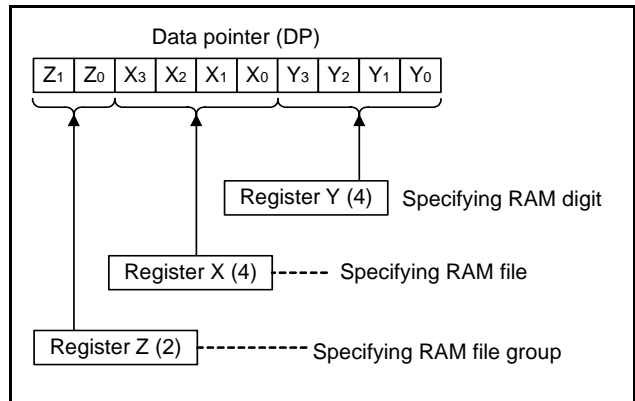
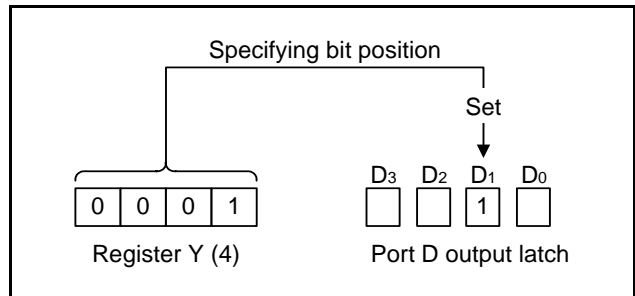

Fig 19. Data pointer (DP) structure
Fig 20. SD instruction execution example
**(9) Data pointer (DP)**
Data pointer (DP) is used to specify a RAM address and consists of registers Z, X, and Y. Register Z specifies a RAM file group, register X specifies a file, and register Y specifies a RAM digit (Figure 19). Register Y is also used to specify the port D bit position. When using port D, set the port D bit position to register Y certainly and execute the SD, RD, or SZD instruction (Figure 20).